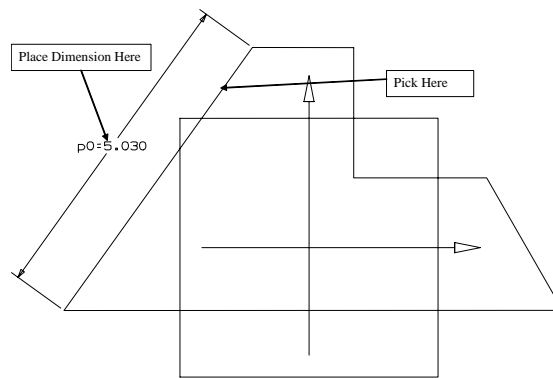

Figure 17
- Create the dimension as shown in Figure 17. UG creates a parallel dimension in this case.